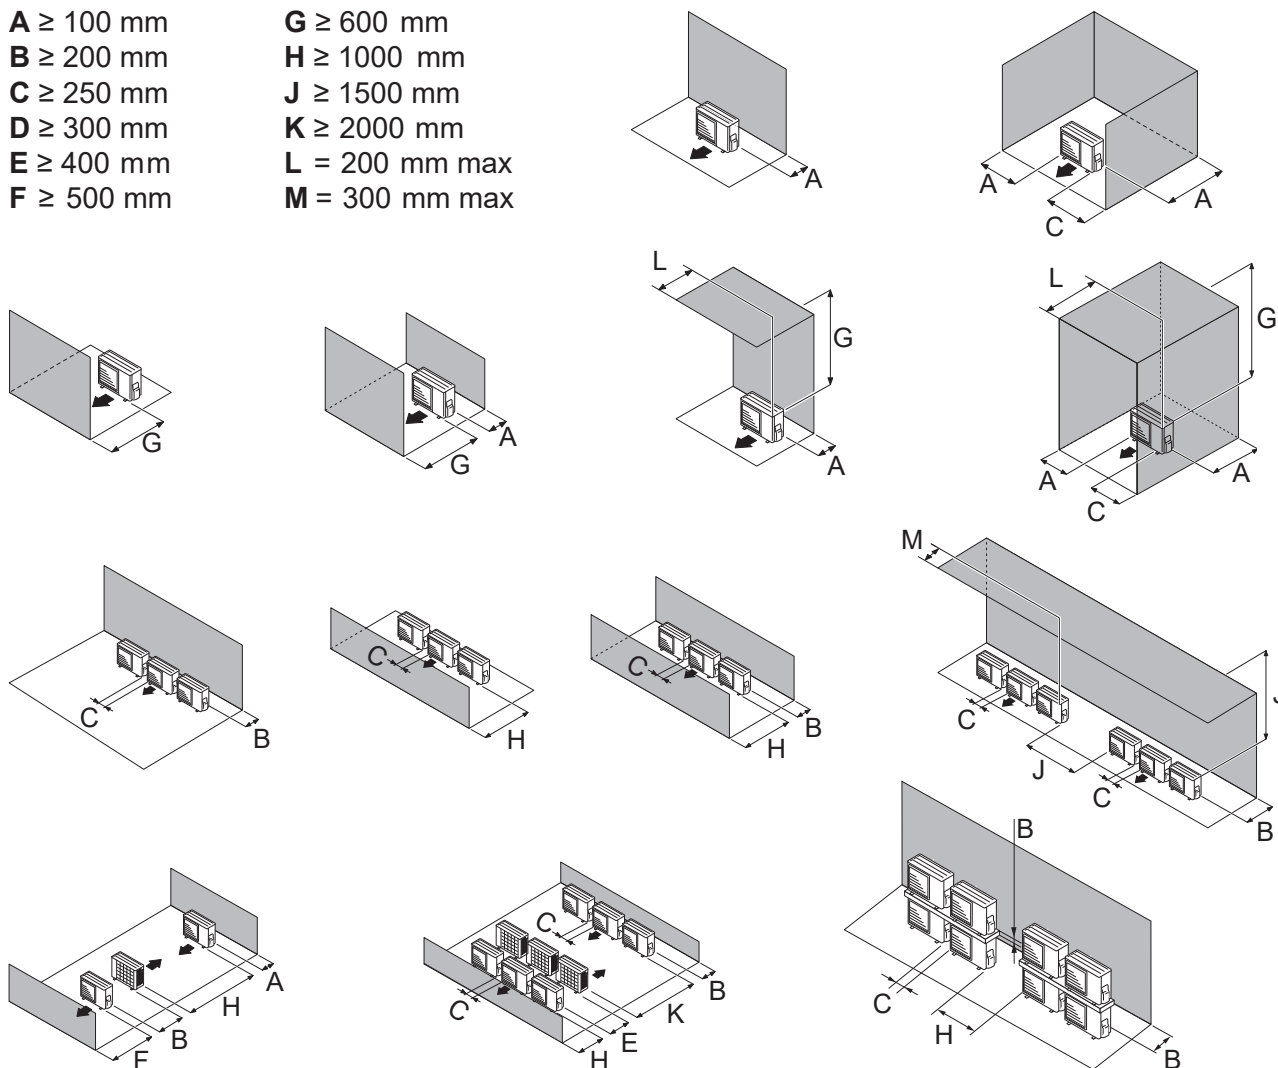

fig. 16 - Minimum installation clearances around the outdoor unit (model 3, 5, 6 & 8)
- The unit must be easily accessible for future installation and maintenance work (fig. 16 & fig. 17, page 18).
- Caution should be taken to ensure that there is no obstruction to air circulating through the outdoor unit (fig. 16 & fig. 17, page 18).